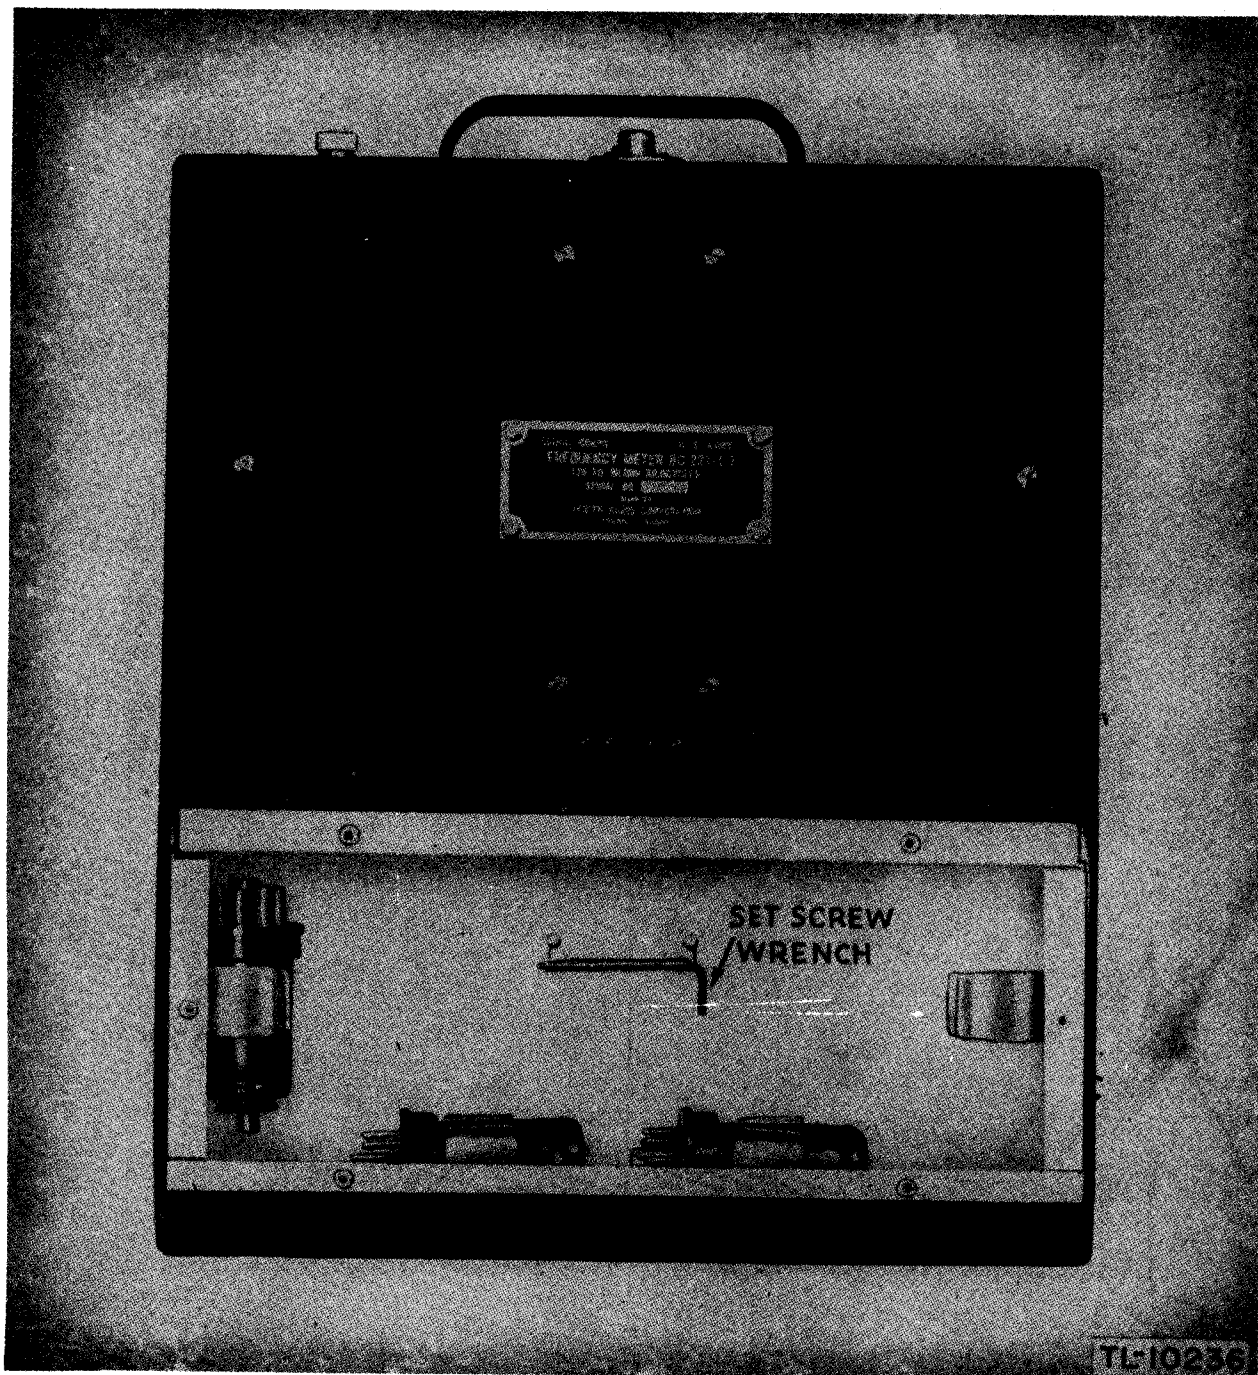

Figure 19. Frequency Meter BG-221-T, view of spare parts compartment.
b. A number of photographs covering miscellaneous views of various models are included at the end of this chapter. (See figs. 19 to 27, incl.)